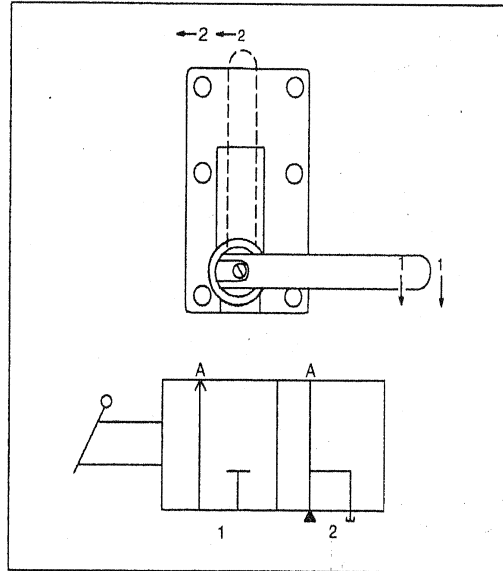

Figure 7
1. Shift valve handle to position 1 as shown in Figure 7.